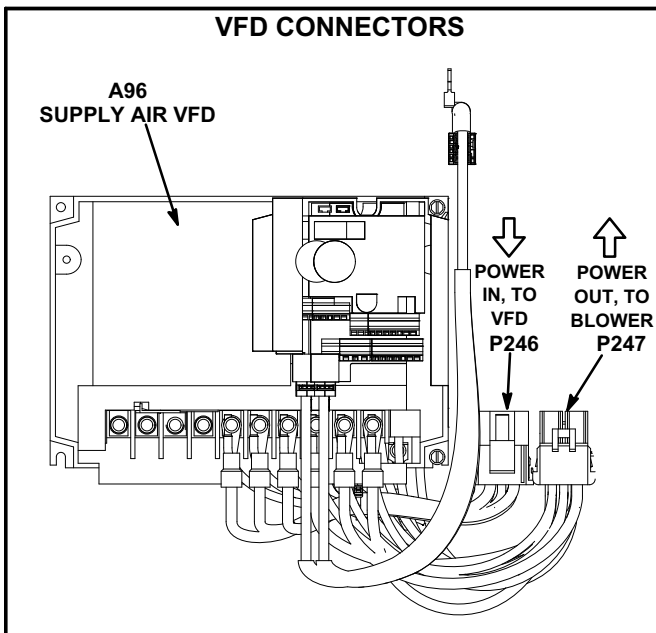

FIGURE 33
- 9- Locate P246 and P247 connectors near the VFD. See figure 33.